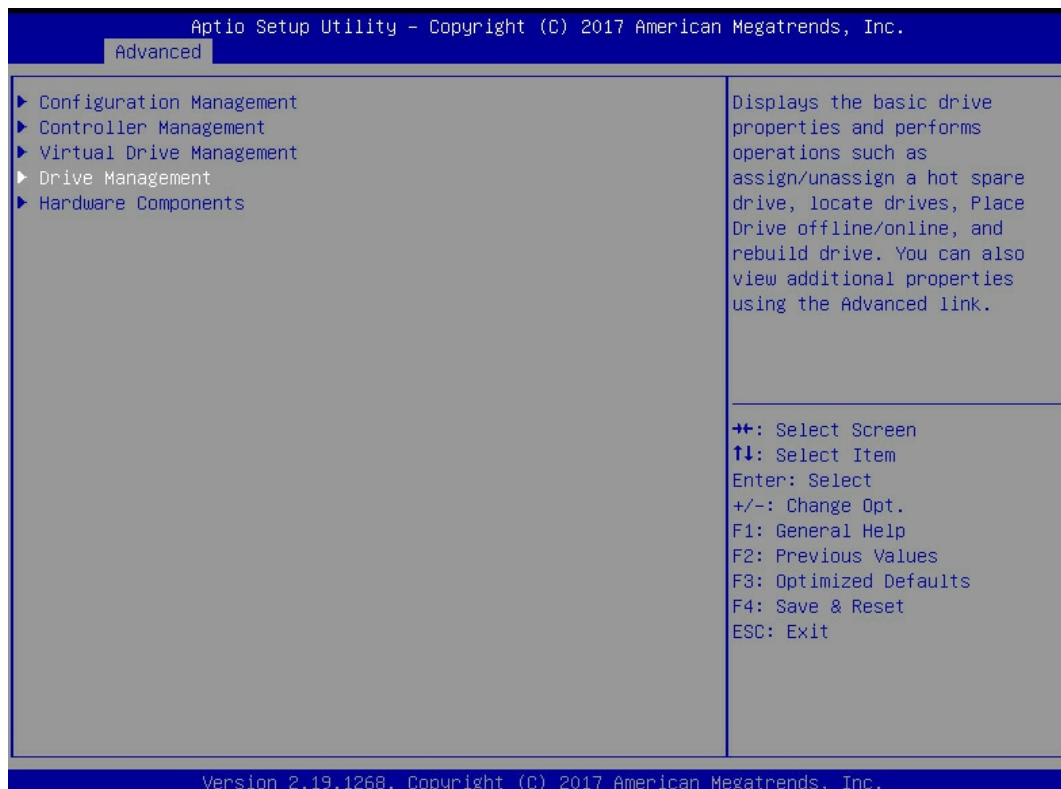

Figure 6-55
a) As shown in figure 6-55, select drive management in the raid card configuration interface and press enter.
✧ Figure 6-55 select drive management